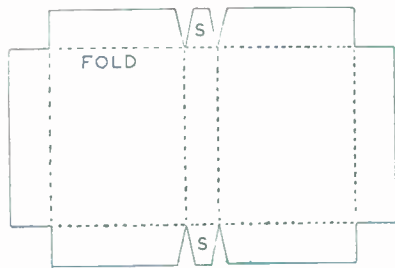

FIG 1
The first requirement is the measurement of the book when you may cut out a cover to the shape shown in Fig. 1. This is easily achieved by laying the opened book on the paper so that allowance is made for the width and depth of the covers, the width of the spine, plus an extra two inches at each side, and top and bottom for folding inside the existing backs. It will be seen that the paper cover is folded on the dotted lines but provision is also made for protecting the spine by the tapered flaps (S) in the centre. These flaps are tucked down inside after cutting out and fitting the cover to the book.